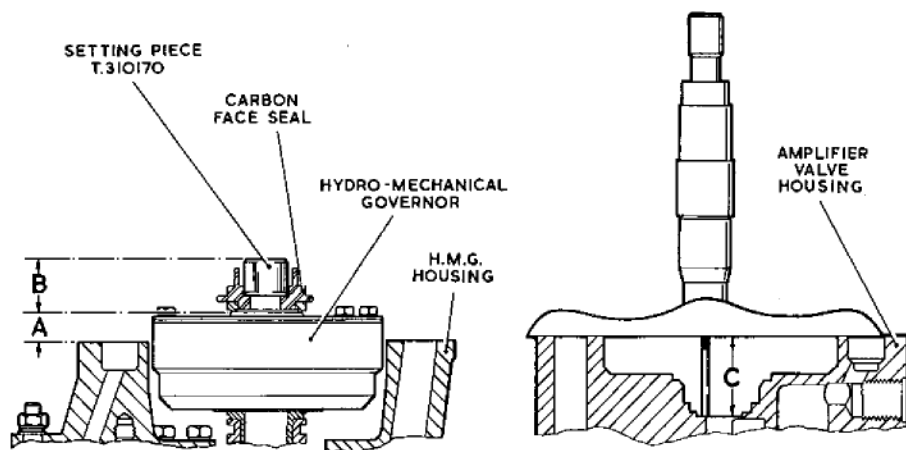

Fig. 11. Checking the h.m.g. carbon face seal load
92. To check, proceed as follows referring as necessary to figure 11:—